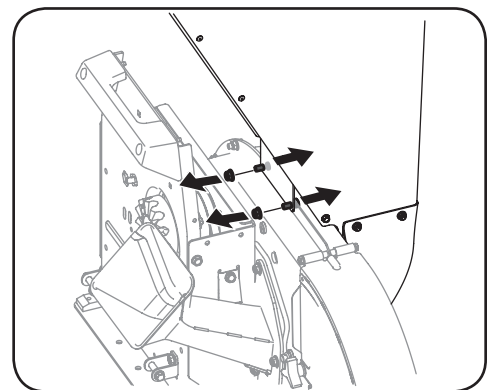

Figure 5-13
3. Remove the two flange nuts (and hex bolts) which secure the hopper support bracket to the impeller housing. Retain the hardware. See Figure 5-13.